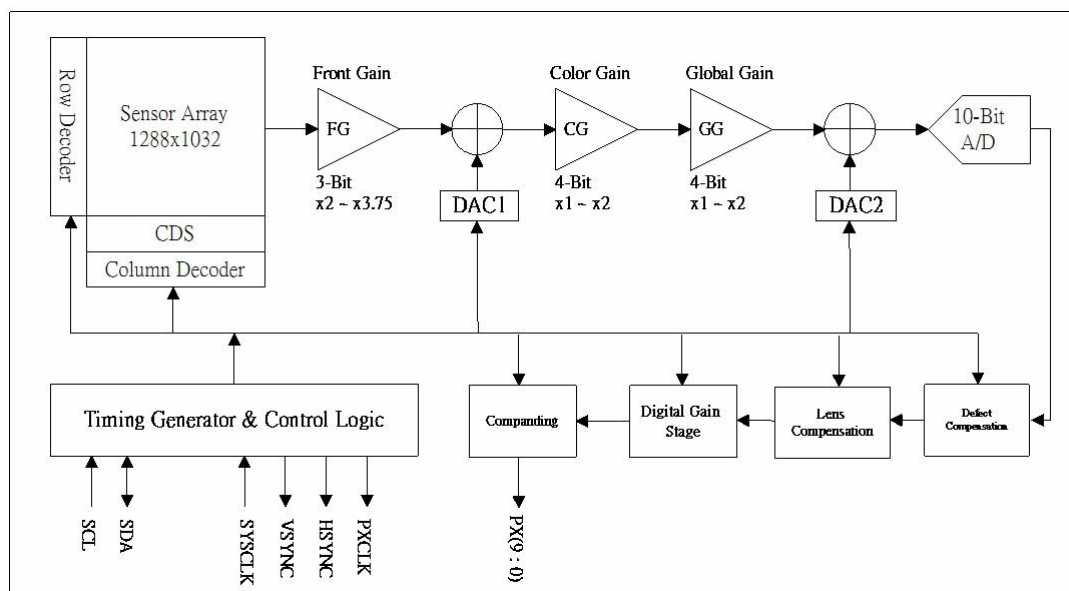

Figure 3.1 Shows the PAS5101PE sensor block diagram
The PAS5101PE is a 1/3" CMOS imaging sensor with 1280 (H) x 1024 (V) physical pixels. The active region of sensor array is 1288 (H) x 1032 (V) as shown in Figure 3.1. The sensor array is covered with Bayer pattern color filters and  $\mu$ -lens. The first pixel location (0,0) is programmable in 2 direction (X and Y) and the default value is at the left-down side of sensor array.